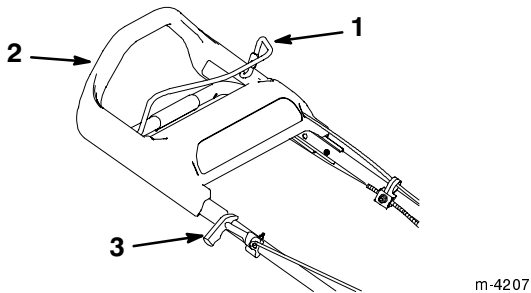

Figure 10
The starter handle and the blade control bail are on the upper handle as shown in Figure 10.
3. Hold the blade control bail against the upper handle (Fig. 10).
- **Manual Starting**—Pull the starter handle lightly until you feel resistance, then pull it sharply (Fig. 10). Allow the rope to return to the handle slowly.